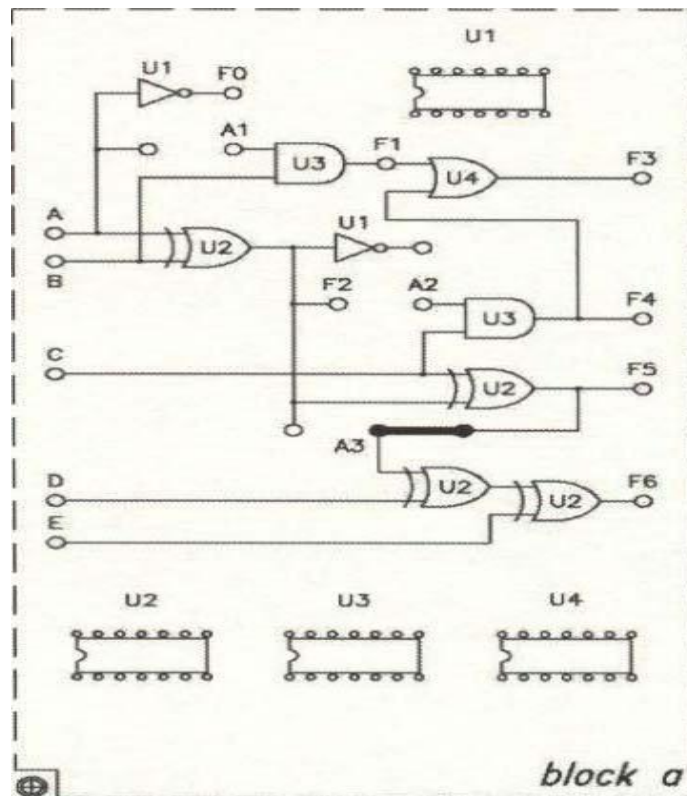
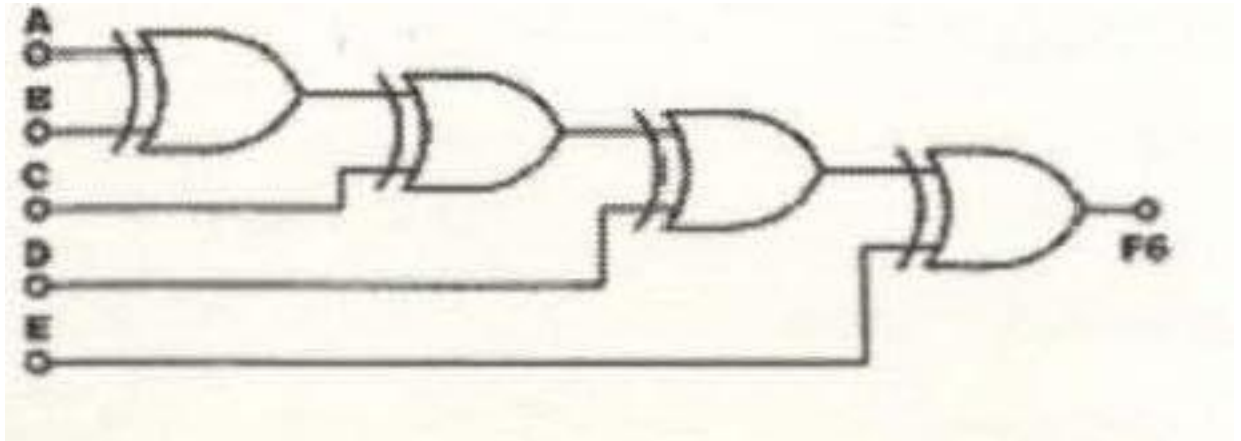

Fig. 9-2-2 Wiring diagram (KL-26002 block a)
Fig. 9-2-3 Even parity generator circuit
1. Set the KL-26002 Module on the KL-22001 Basic Electricity Circuit lab, and locate block a. Complete the connection by referring to the wiring diagram in Fig. 9-2-2 and the even parity generator circuit in Fig. 9-2-3. Apply +5VDC from the Fixed Power on KL-22001 Lab to KL-26002 Module.